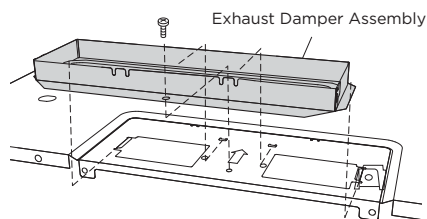

Figure 16
- Attach the Exhaust Damper Assembly to the fan cover on the top of the outcase cabinet by sliding it into the slits in the same direction as the arrow. Use 1 Tapping Screw 4 x 12 mm from the INSTALLATION HARDWARE and tighten into place. See Figure 16.